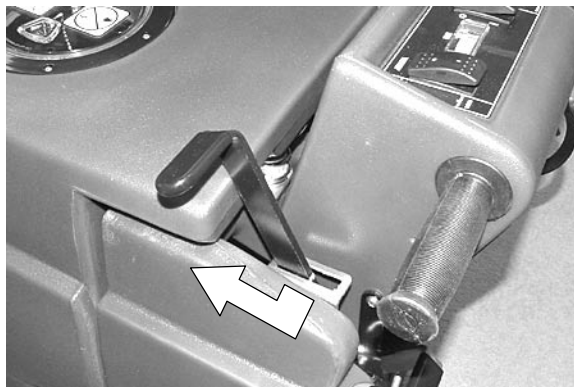

FIG. 11
2. Lower squeegee by releasing squeegee lift lever from the lock position (Figure 11).